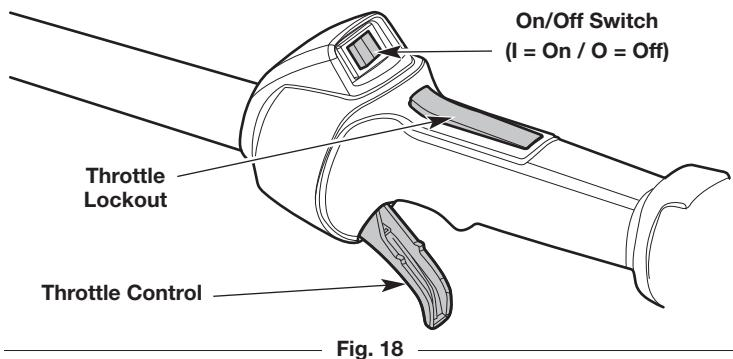

Fig. 18
NOTE: There is no need to turn the unit on. The On/Off switch is in the **On (I)** position at all times (Fig. 18).
NOTE: DO NOT squeeze the throttle control (Fig. 18) until step 6.
6. Press and hold the throttle lockout (Fig. 18). Squeeze the throttle control as needed for operation (Fig. 18).
2. Press and hold the On/Off switch in the **Off (O)** position until the engine comes to a complete stop (Fig. 18).
NOTE: DO NOT squeeze the throttle control (Fig. 18) until step 8.
8. Press and hold the throttle lockout (Fig. 18). Squeeze the throttle control as needed for operation (Fig. 18).